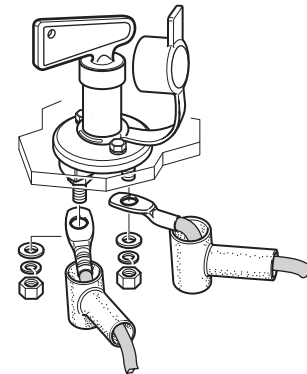

Fig. 50
- ▶ Connect the cables to the battery cut-off switch and secure with nuts (Fig. 50).